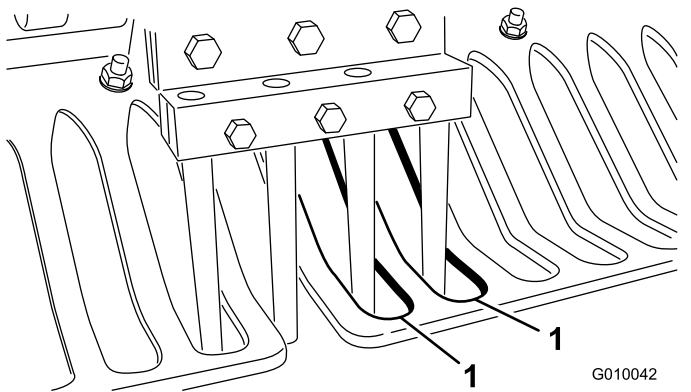

Figure 28
7. Check that the tines line up with the center of the gaps in the turf guards (Figure 28). Adjust the turf guards as required and tighten the nuts.